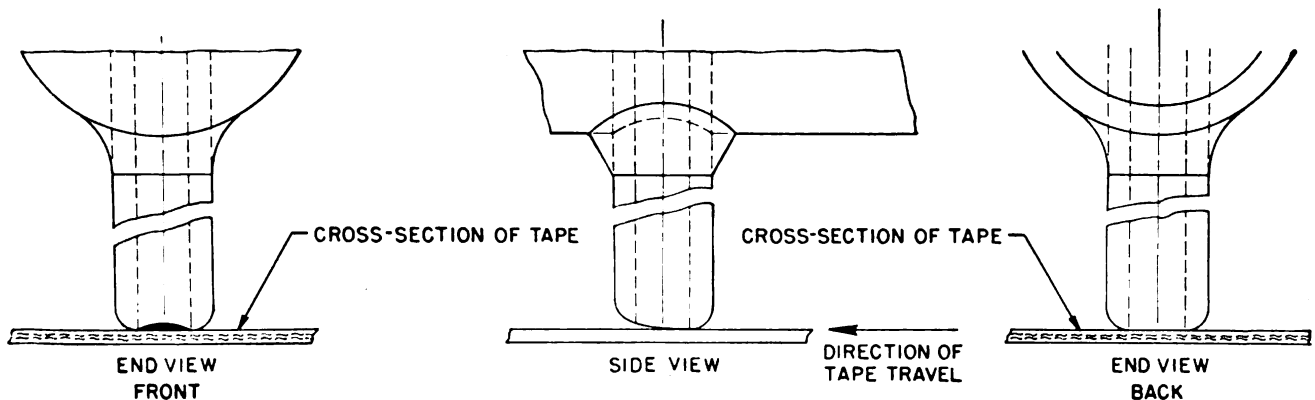

Figure 25. Pen honing.
(1) Lower tape anvil so that a small hone may be slipped between pen point and anvil.
(2) Place hone in position parallel to anvil writing surface. Move pen back and forth several times, at the same time tilting the end of hone slightly upward, to grind the pen to form shown in figure 25.
(3) Remove pen from pivot block and set pen point on hone. Tilt and rotate at the same time to slightly round the edges. This removes any slight burr that may be present on the edges of the pen point. Replace pen in pivot block.